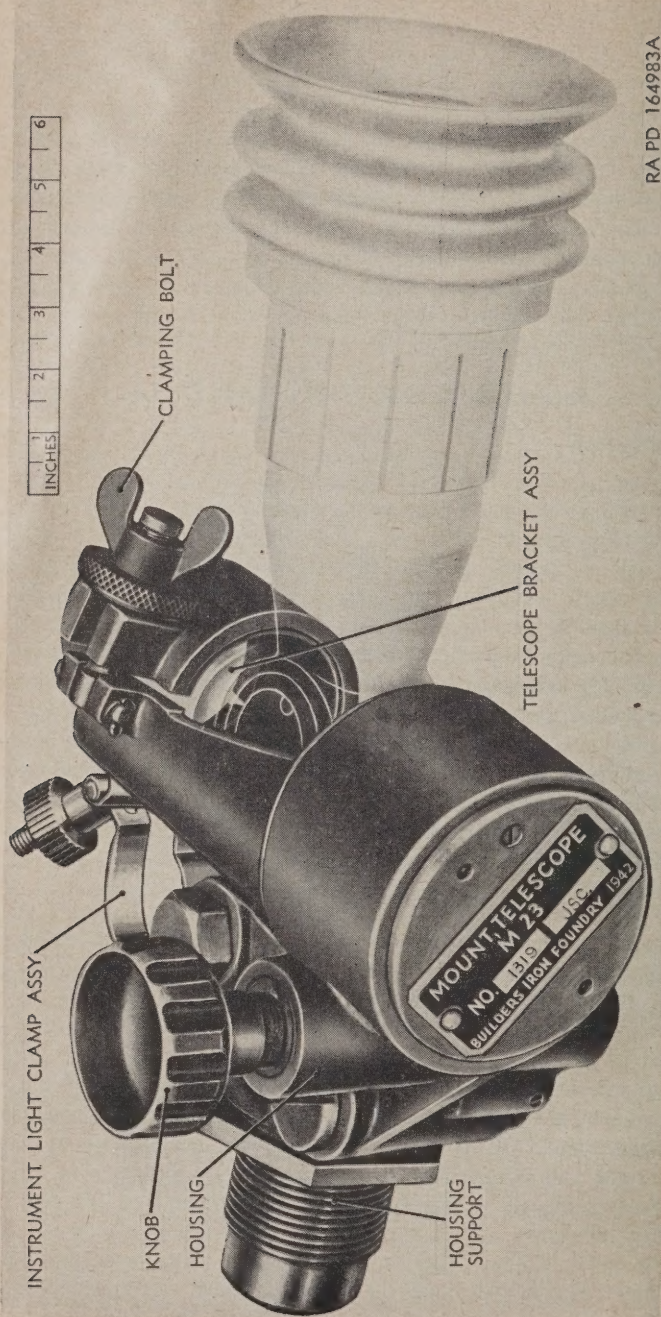

Figure 1. Telescope mount M23.
The basic purpose of the telescope mounts covered herein is to provide for the mounting and positioning of elbow-type telescopes (fig. 1) on motor carriages, field artillery, and antiaircraft artillery (fig. 2). The telescope mounts covered in this manual are of the rigidly mounted, single purpose type (except for the M32). They are so called because they are mounted directly to the gun, quadrant and/or carriage for a precise purpose; that is, movement in either azimuth or elevation. The telescope mount M32 moves in azimuth and elevation. These telescope mounts have elevation and azimuth adjusting worm mechanisms (fig. 3) for alining the telescope to the axis of the bore of the gun during boresighting. The adjustments are made by loosening a clamping screw. The worm can then be turned by means of a screwdriver and will adjust the mount in azimuth and/or elevation by moving the spindle and/or telescope holder (fig. 3).
*b. Housing Support (Telescope Mount M23 Only).* The housing support (fig. 1) performs two functions. It is the means by which the mount is attached to the weapon and is also the elevation worm gear by which the mount is adjusted in elevation.
*c. Housing (Telescope Mount M23 Only).* The housing (fig. 1) contains the elevation adjusting worm. It also forms the mount for the telescope bracket assembly. A clamping bolt passes through the split part of the housing and is used for clamping the housing around the support. The elevation adjusting worm engages with the gear teeth on the support. Since the support is rigidly mounted to the range quadrant M4 or M4A1, rotation of the worm causes the housing to rotate in a vertical or nearly vertical plane parallel to the bore of the gun. The worm is used when adjusting the telescope in elevation with respect to the bore of the gun.
*d. Telescope Bracket Assembly (Telescope Mount M23 Only).* The telescope bracket assembly (fig. 1) holds the telescope. One end of the telescope bracket fits into the housing and is provided with worm gear teeth that are engaged by the bracket adjusting worm, which is mounted in the housing (fig. 1). The other end of the bracket is provided with a clamp that fits around the telescope body. Rotation of the adjusting worm, which is actuated by a knob (fig. 1), causes the telescope to rotate about its optical axis, thereby providing alinement for the telescope reticle.
- (1) The telescope mount M23 is mounted by means of a threaded support (fig. 1).
- (5) The telescope mount M42 (fig. 11) is mounted on the range quadrant in the same manner as the M23; i. e., by means of a threaded adapter (fig. 11). The holders of the M42 (fig. 11) and M23 (fig. 1) differ in detailed design.